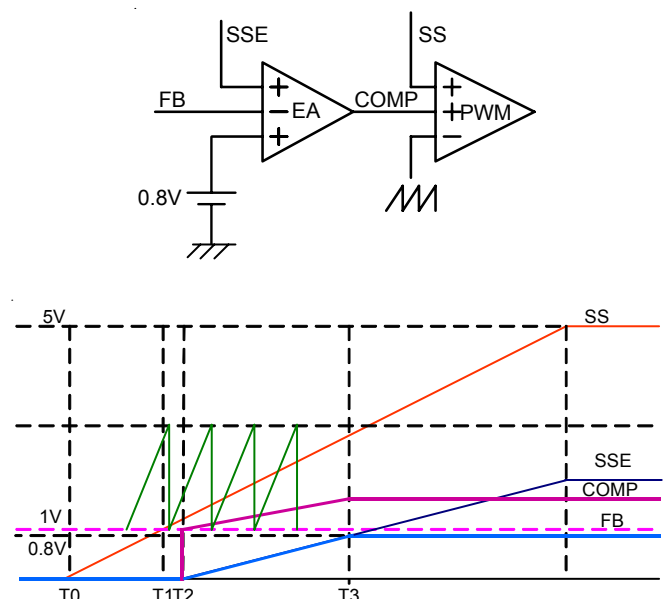

Figure 1. Timing diagram of softstart
The behavior of RT9232 Soft-Start can be simply described as shown as Figure.1 below; and the Soft-Start can be sliced to several time-frames with specific operation respectively.
The RT9232 initiates the softstart cycle as shown in Figure 1 when POR function is OK. An internal 10µA current source charges an external capacitor on SS pin (CSS) to 5V. The softstart function produces an SSE signal that is equal to (SS-1.2V)/2. Error Amplifier (EA) and PWM comparator are triple-input devices. The non-inverting input